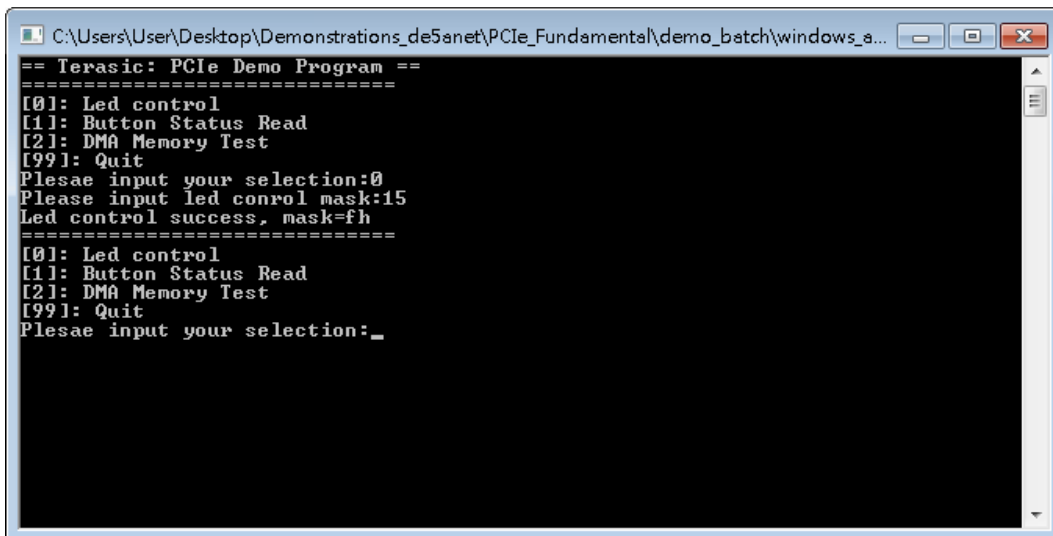

Figure 7-12 Screenshot of LED Control
7. Type 0 followed by a ENTER key to select Led Control item, then input 15 (hex 0x0f) will make all led on as shown in **Figure 7-12**. If input 0 (hex 0x00), all led will be turn off.